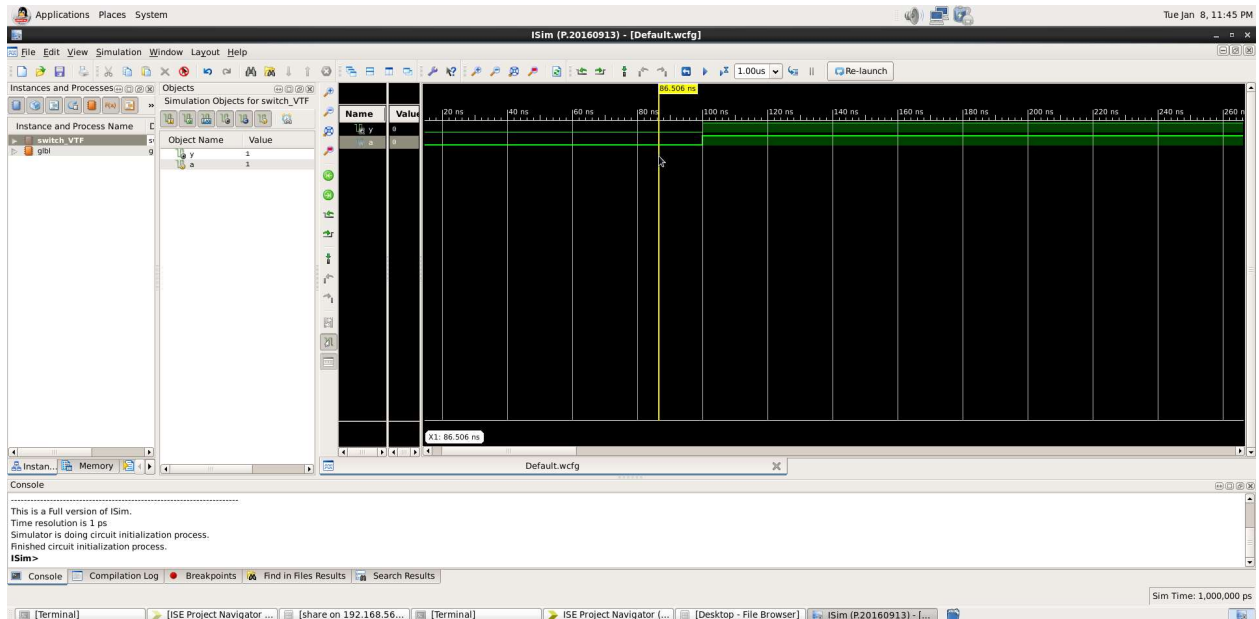

Fig 1.20: Simulation Result
22. A new window showing the waveforms for the inputs and outputs of the design will open. The simulated waveform for the “switch” is shown in the Fig 1.20. The simulation is successful here as the output is verified for switch.